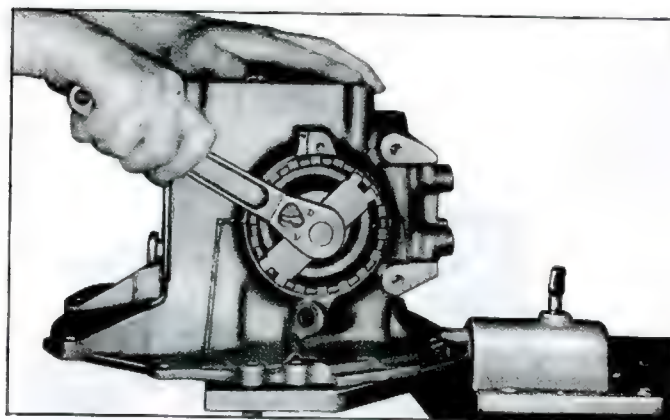

Fig. 14—Removing Side Bearing Adjusting Sleeve with J-8342
5. Remove cap screw securing locking tab to differential side gear adjusting sleeves and then remove adjusting sleeve using J-8342 (fig. 14).